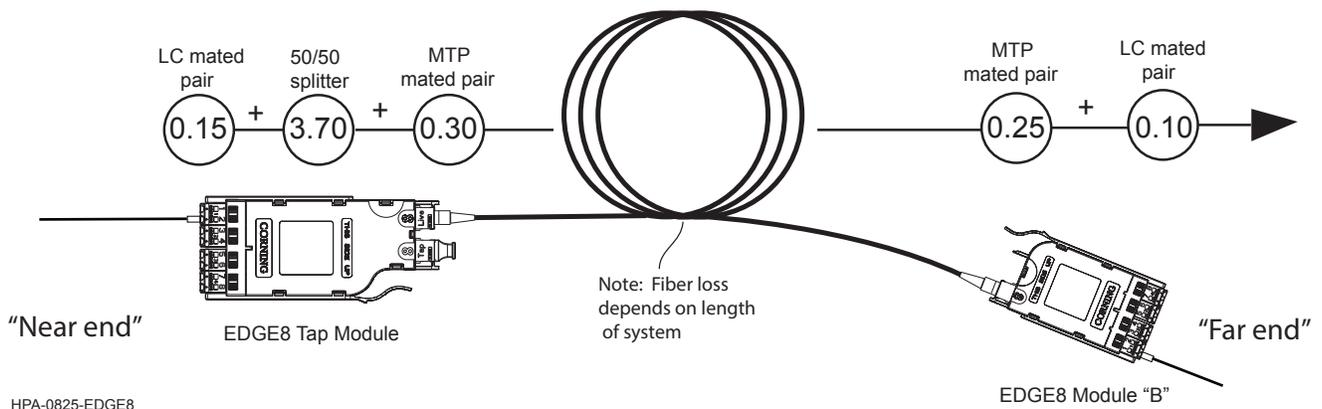
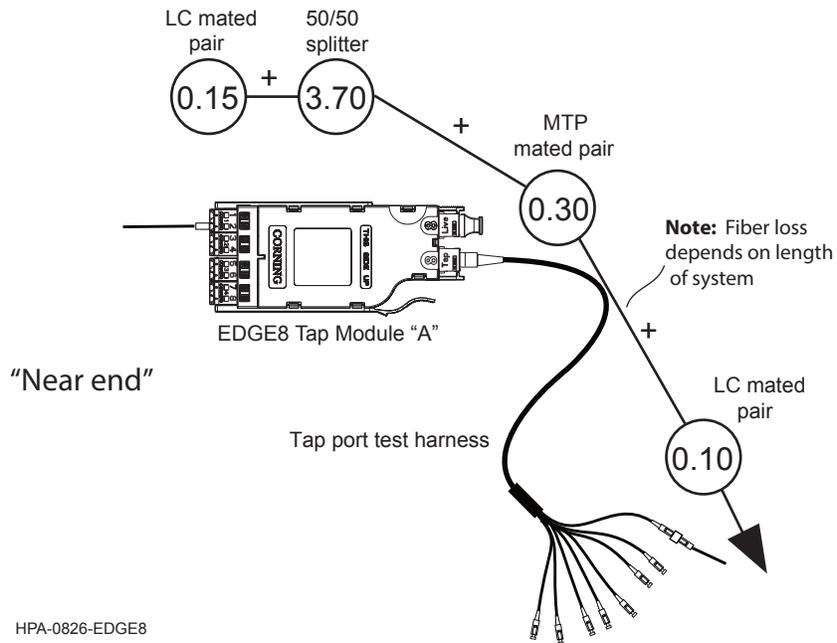

Figure 4
Figure 5
5.1 This section describes how to calculate the loss budgets of a system using an EDGE8™ Tap Module. Note that you will need to calculate one loss budget for the LIVE system (Figure 4) and two different loss budgets for the Tap output (Figure 5 and 6).
5.2 To calculate the system losses, add the loss values of the components as illustrated in the examples shown in Figures 4, 5, and 6.